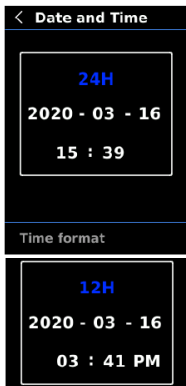

Fig. 16
3. Press the **SET** button followed by the  and  buttons to adjust the selected parameter (Fig. 16).